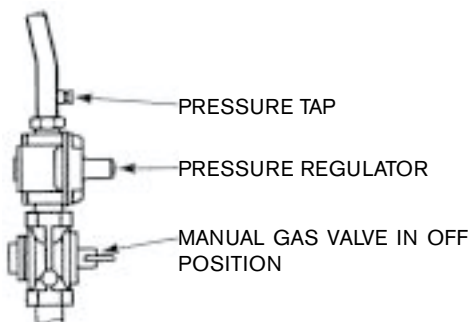

Figure 9
2. The main manual gas valve must be closed (turn valve handle clockwise ) and the gas valve OFF button depressed . See figure 9.
3. Wait five (5) minutes to clear out any gas. If you then smell gas, STOP! Follow "B" in the safety information given above on this plate. If you don't smell gas, go to next step.
1. Depress OFF button  and close the main gas valve by turning handle clockwise to OFF position. See figure 9.
The gas pressures specified below refer to flow pressure taken at the pressure tap in the gas inlet pipe (just above pressure regulator), figure 9, while the heater is operating at full input.